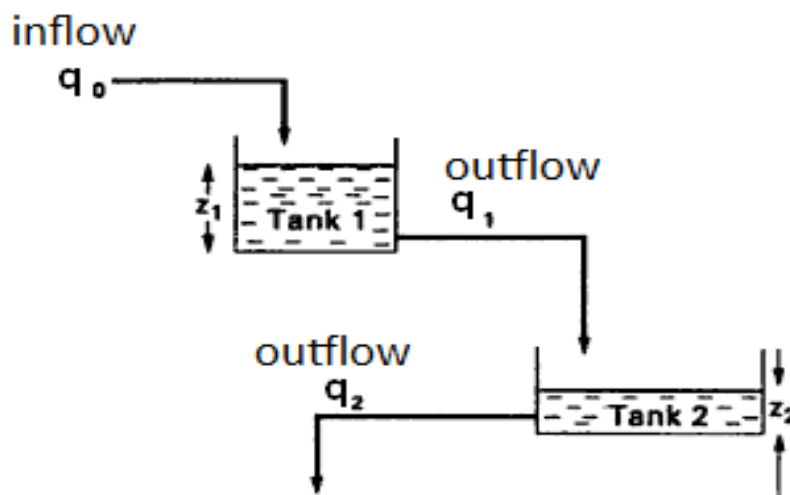

Figure 8: Noninteracting tanks
- (c) **Figure 8** shows the **two (2)** tanks connected in series where fluid level in downstream tank does not affect the fluid-level dynamics of the upstream tanks.